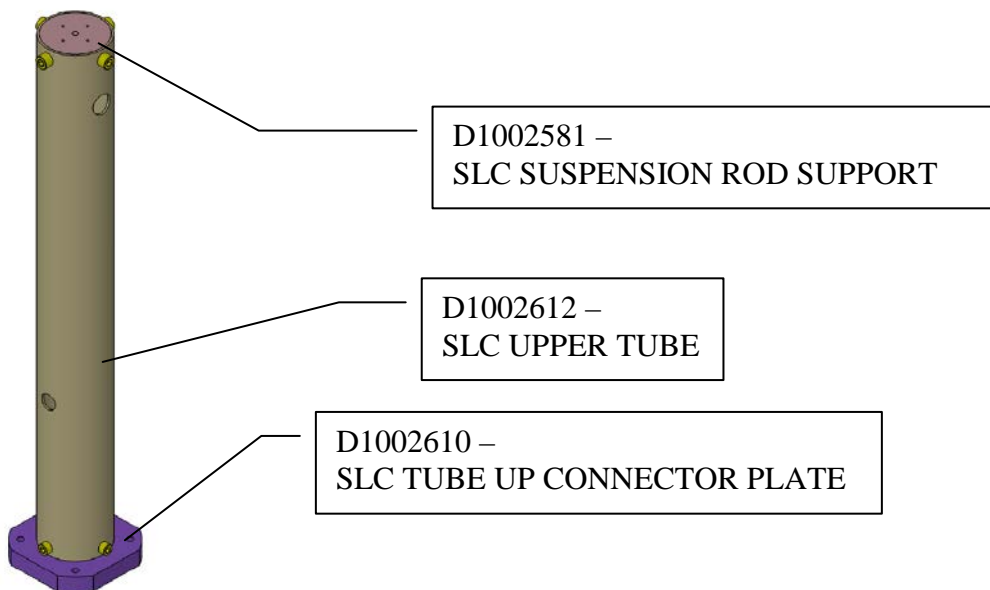

Figure 16: Baffle Tube Up Assembly
- 1. Insert D1002581 – SLC SUSPENSION ROD SUPPORT into D1002612 – SLC UPPER TUBE on end closest to view holes, see Figure 16. Align with fastener holes. Parts may not slide together with ease.**
- 2. Insert D1002610 – SLC TUBE UP CONNECTOR PLATE into D1002612 – SLC UPPER TUBE on end furthest from view holes, see Figure 16: Baffle Tube Up Assembly. Align with fastener holes.**